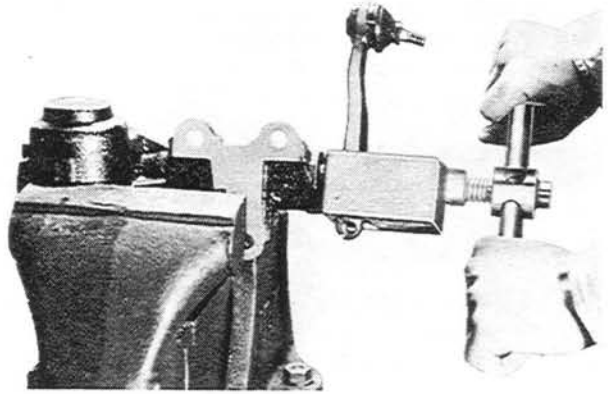

Fig. 10-4 Removing of pitman arm
3. Loosen the nut holding the pitman arm and remove the pitman arm with the puller (49 0223 695), as shown in Fig. 10-4.